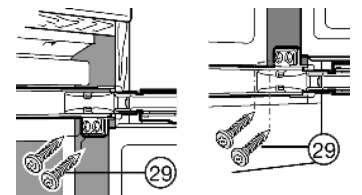

Fig. 18
- ▶ Screw chipboard screws Fig. 18 (29) on both doors at the top and at the bottom through the hinge plates.